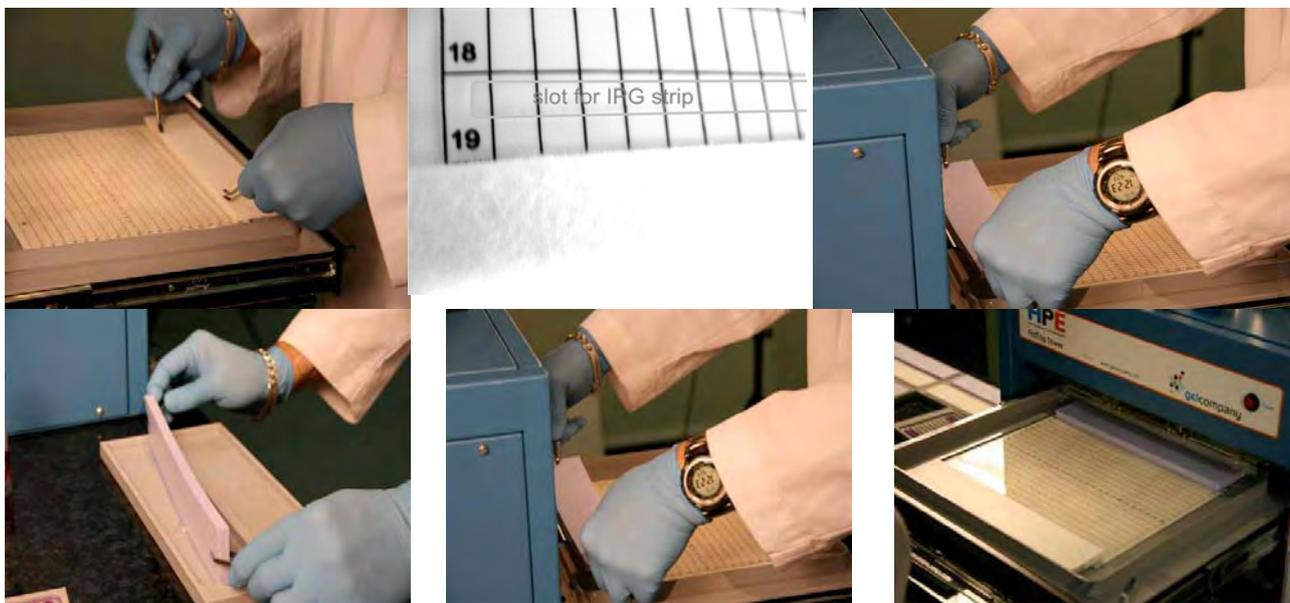

Fig. 5.7: Applying the electrode wicks on gel edges.
9. Place the electrode wicks onto the gel edges, overlapping the gel by at least 2 mm. Move the anodal wicks around the gel area to avoid dropping buffer on the gel surface (fig. 5.7)